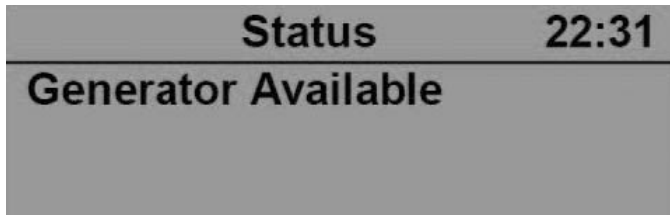

Figure 2-12. Home Page—Engine Running
- See Figure 2-12 for home page when engine is running.